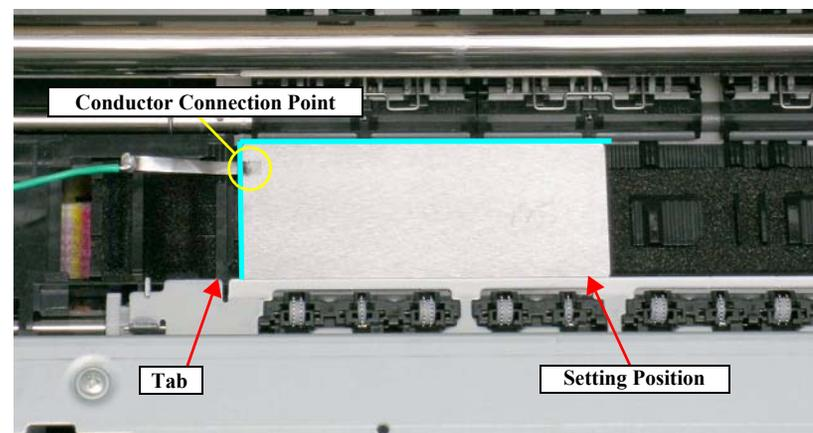

Figure 4-13. Setting the Adjustment Gauge
- Left direction: Release the left end of the Gauge from the Tab on the Front Paper Guide in Figure 4-13.